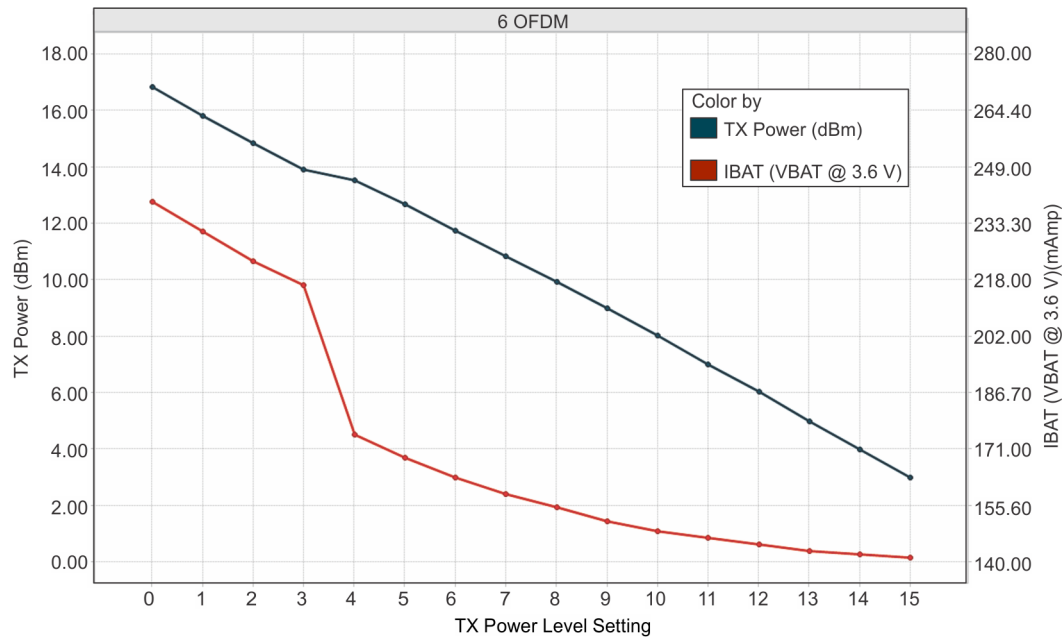
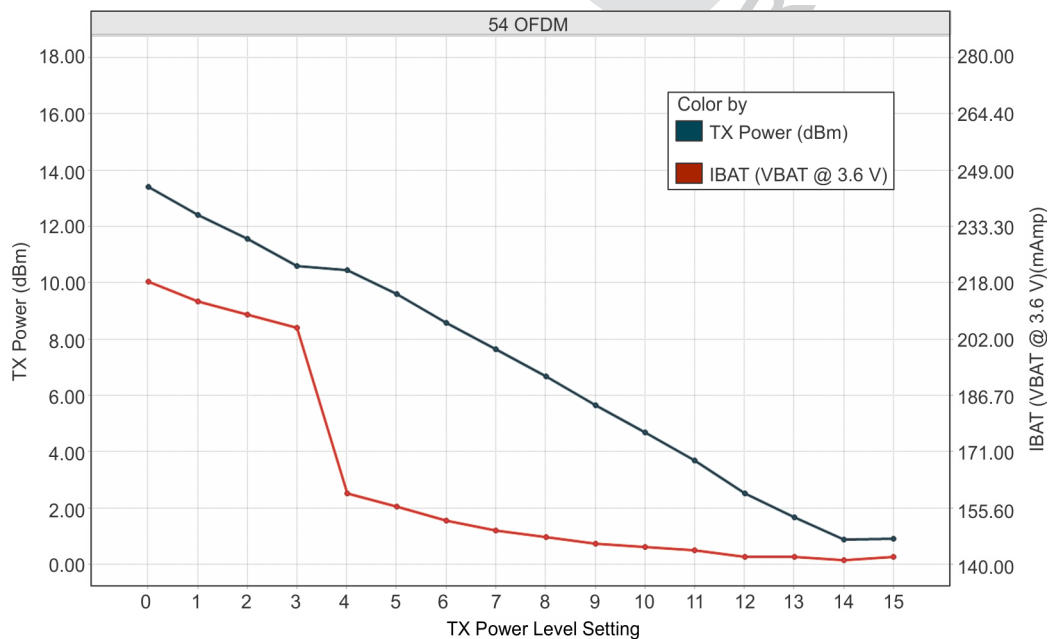

Figure 5-2. TX Power and IBAT vs TX Power Level Settings (6 OFDM)
Figure 5-3. TX Power and IBAT vs TX Power Level Settings (54 OFDM)
- (1) TX power level = 0 implies maximum power (see Figure 5-1, Figure 5-2, and Figure 5-3). TX power level = 4 implies output power backed off approximately 4 dB.
- (2) The CC3135MOD system is a constant power-source system. The active current numbers scale based on the V_{BAT} voltage supplied.
- (3) The RX current is measured with a 1-Mbps throughput rate.
- (4) DTIM = 1
- (5) The complete calibration can take up to 17 mJ of energy from the battery over a time of 24 ms. In default mode, calibration is performed sparingly, and typically occurs when re-enabling the NWP and when the temperature has changed by more than 20°C . There are two additional calibration modes that may be used to reduced or completely eliminate the calibration event. For further details, see CC31XX, CC32XX SimpleLink™ Wi-Fi® and IoT Network Processor Programmer's Guide.